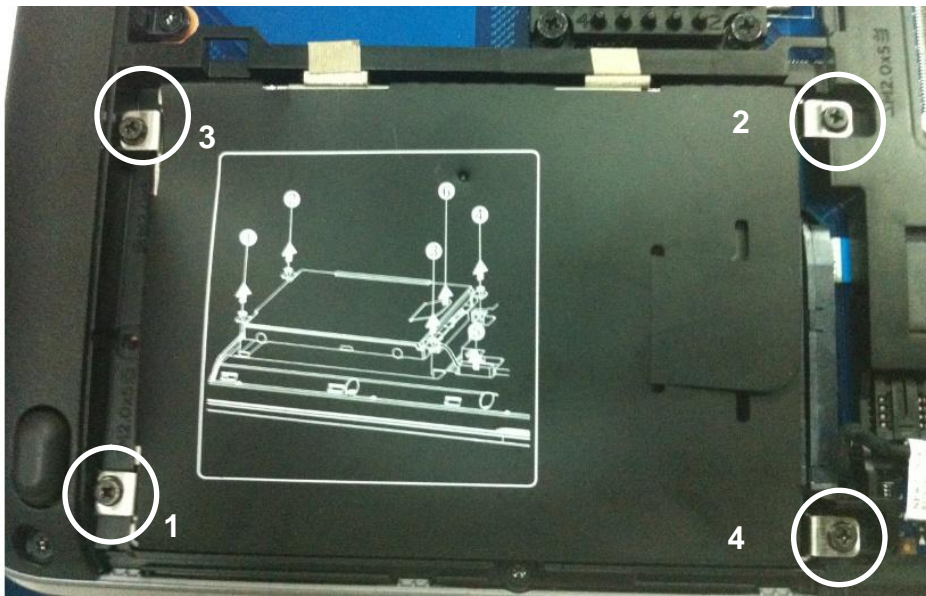

Fig.1
1. Loosen HDD set screw * 4, then remove the HDD. (Fig.1)